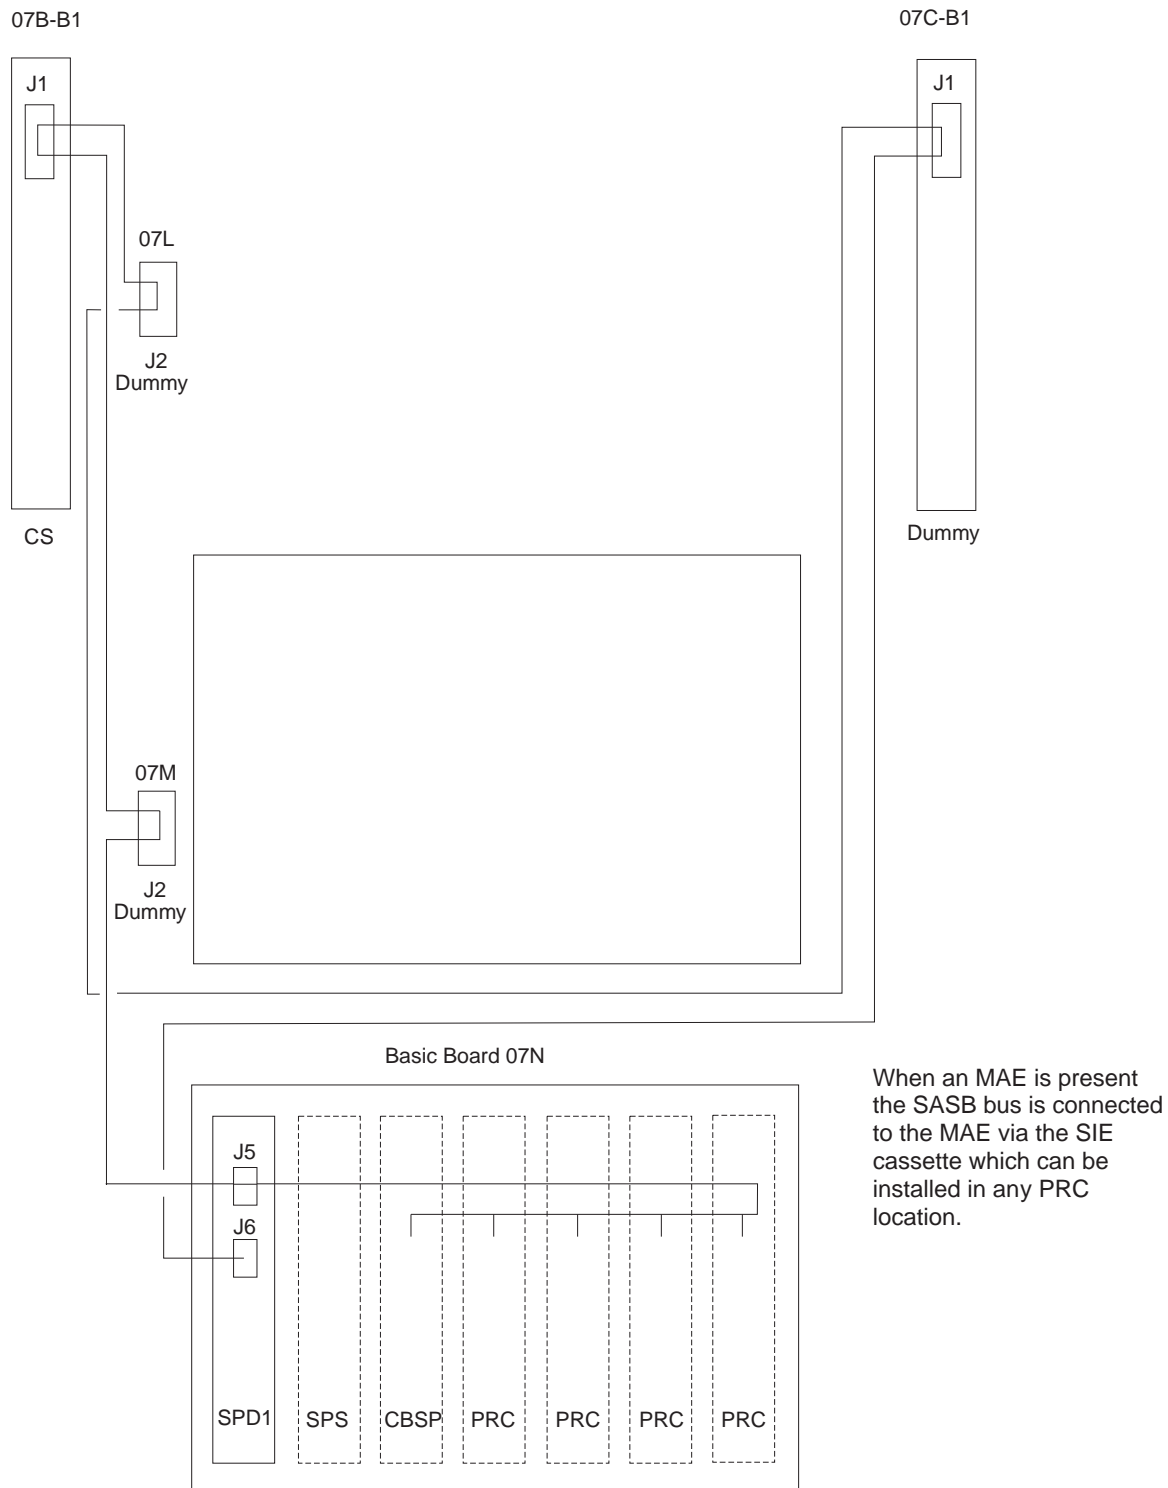
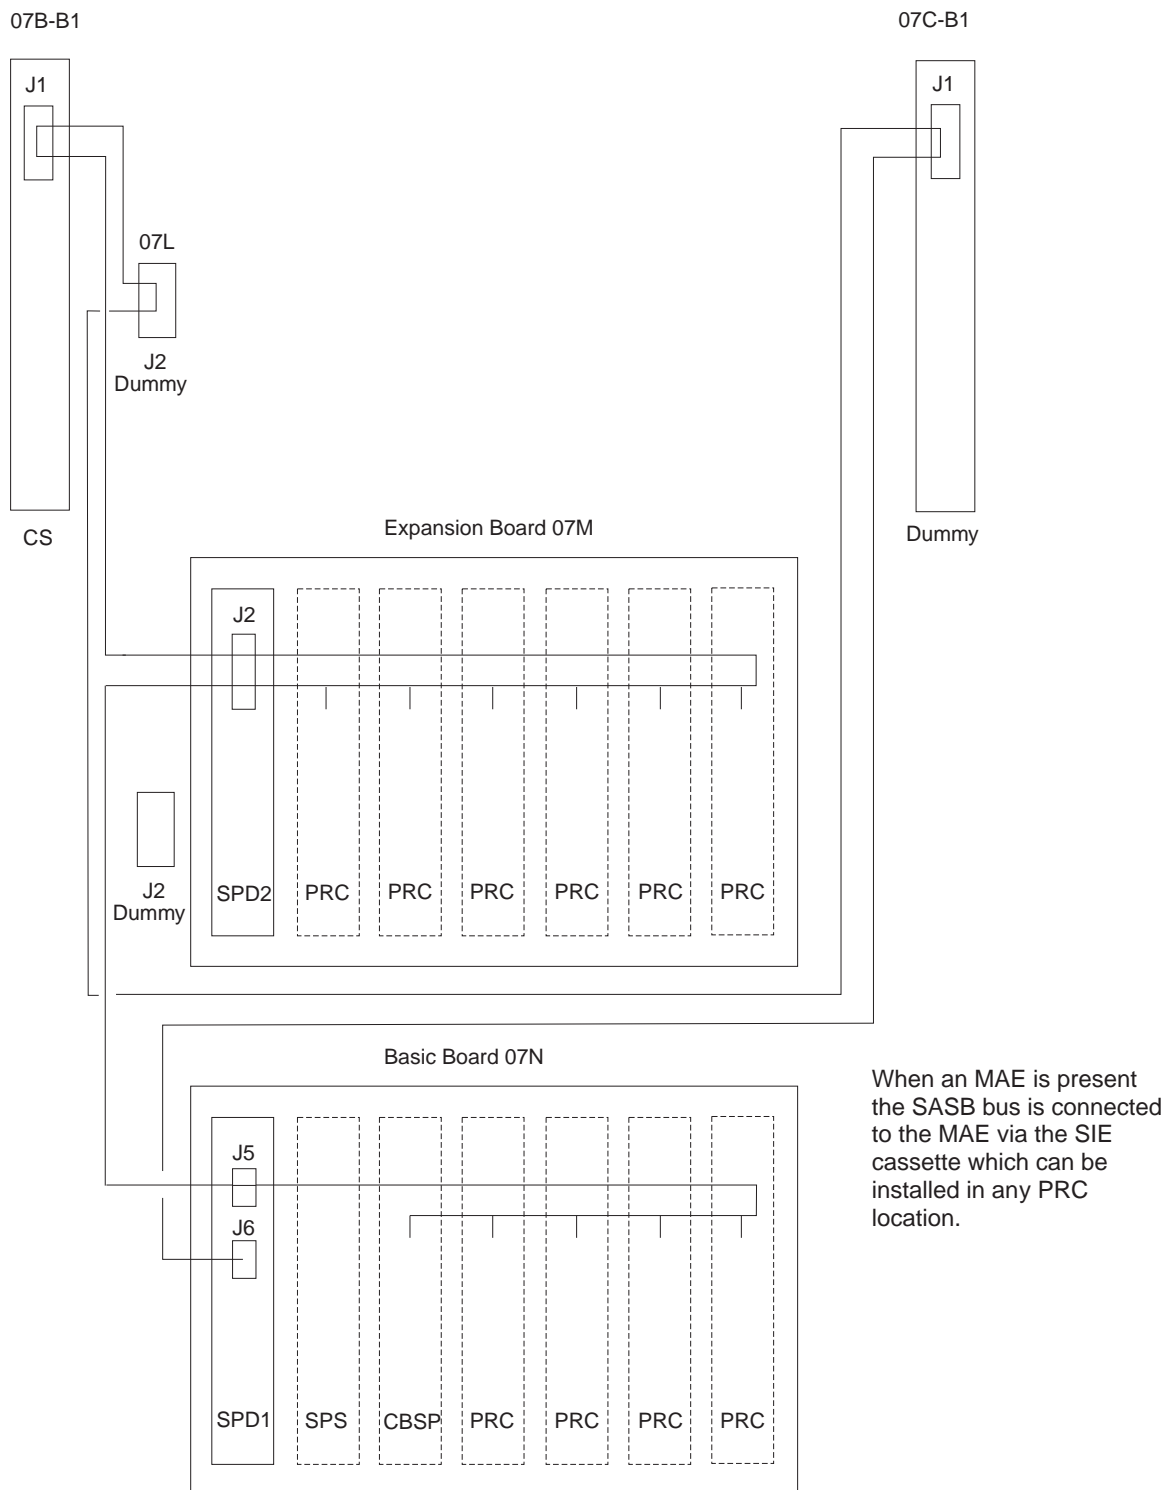
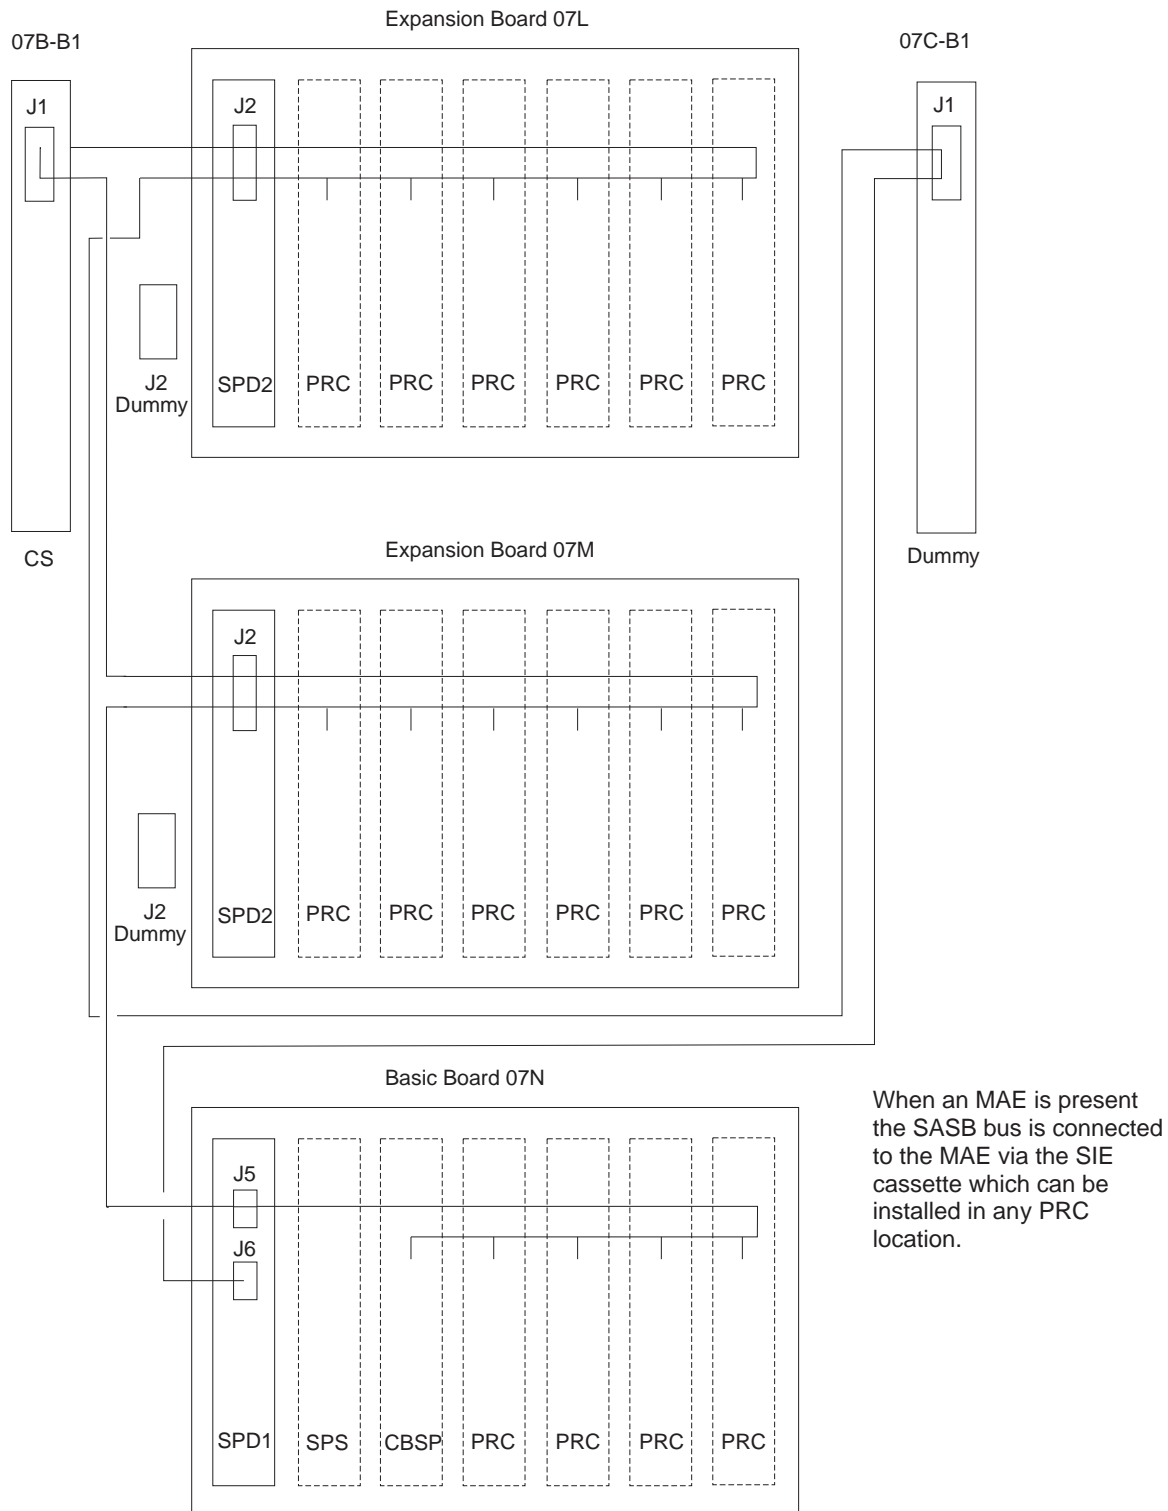

Figure 2-8. Stand Alone Service Bus (SASB) Routing with Basic Board Only
Figure 2-9. Stand Alone Service Bus (SASB) Routing with Expansion Board
Figure 2-10. Stand Alone Service Bus (SASB) Routing Two Expansion Boards
- A "Diagnostic Active Status" window is displayed briefly. Then the first "Information required" window is displayed prompting you to perform tasks on the 3746-900. Perform all the steps following the prompts. Refer to Figure 2-8 on page 2-47, Figure 2-9 on page 2-48, or Figure 2-10 on page 2-49 to locate the different components.